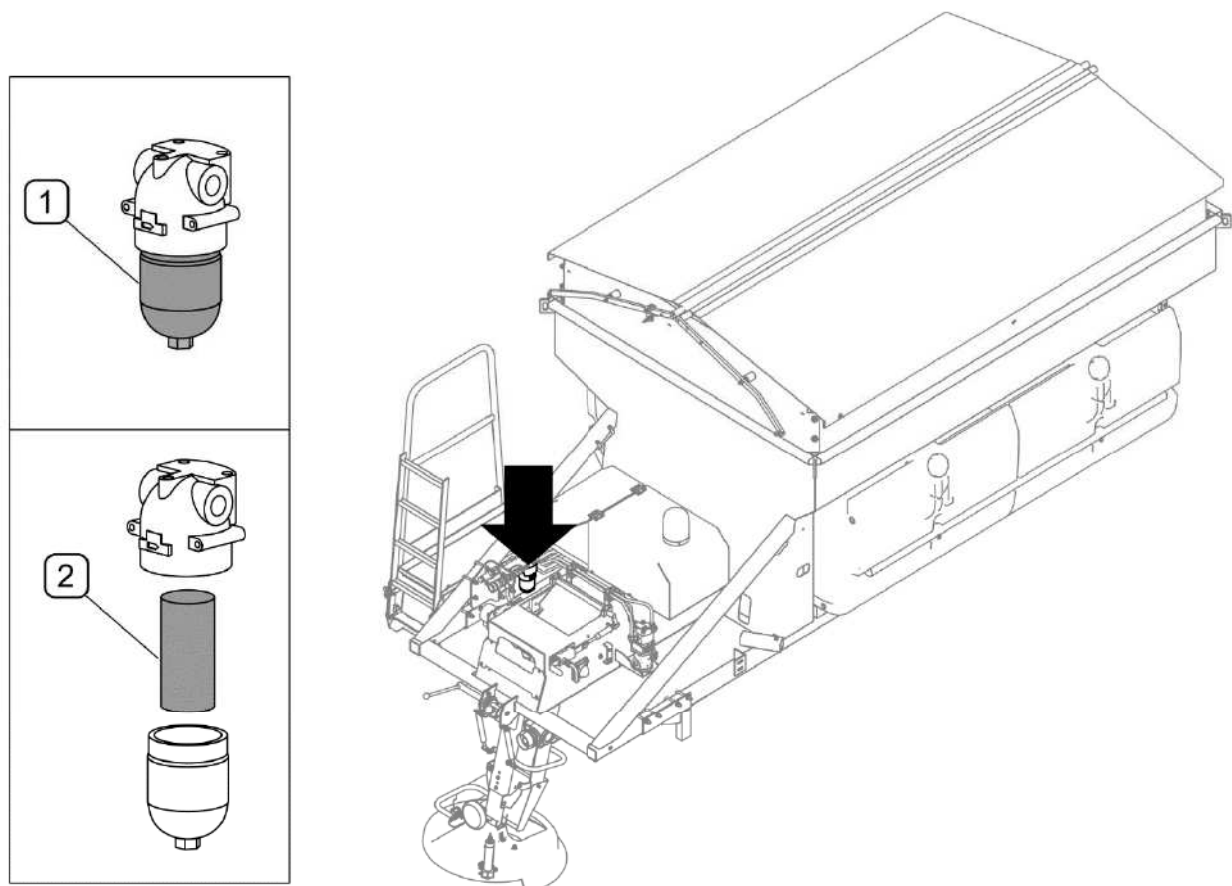

FIG. 5.1 Replacement of oil filter (option)
(1) - oil filter housing; (2) - replaceable filter cartridge
The sand spreader can be also equipped with a pressure oil filter (FIG. 5.1) installed in the hydraulic supply line. Oil filter cartridge (1) should be periodically replaced. Before installing a
Cartridge of pressure oil filter (option) (FIG. 5.1) should be replaced every 500 engine working hours or once a year.